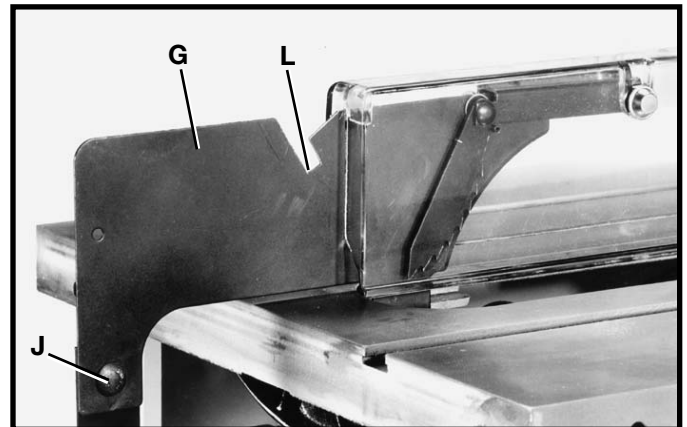
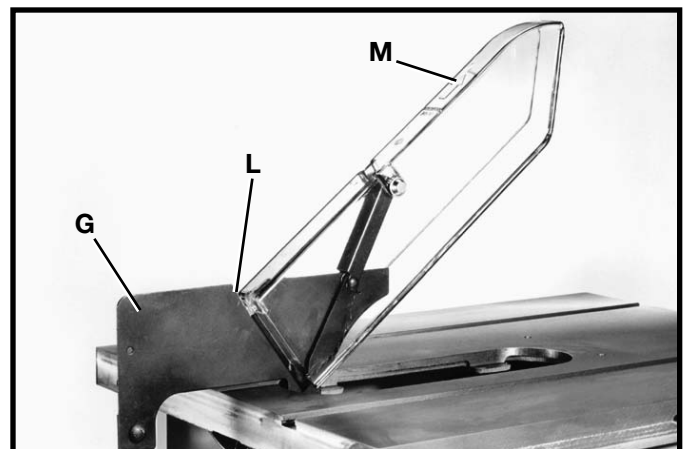

Fig. 33
Fig. 34
8. Fasten the rear of the blade guard and splitter bracket assembly (G) Fig. 33, to the rear splitter mounting bracket using 5/16-18 x 5/8" carriage bolt (J), flat washer, and 5/16-18 hex nut. **IMPORTANT:** The splitter (G) Fig. 33, has a notch (L) cut in the top edge. This feature will enable the blade guard to stay in the raised position to make blade changing a little easier. Raise the front of blade guard (M) Fig. 34, until the rear edge of the blade guard slips into notch (L) of splitter (G); the blade guard will stay in this position.